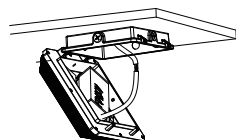

Figure 2-6
6. Connect the wires properly. If the fixture is equipped with sensor, adjust the sensor settings as per your demand. Take relevant waterproof measures after finished wiring ; Figure 2-6